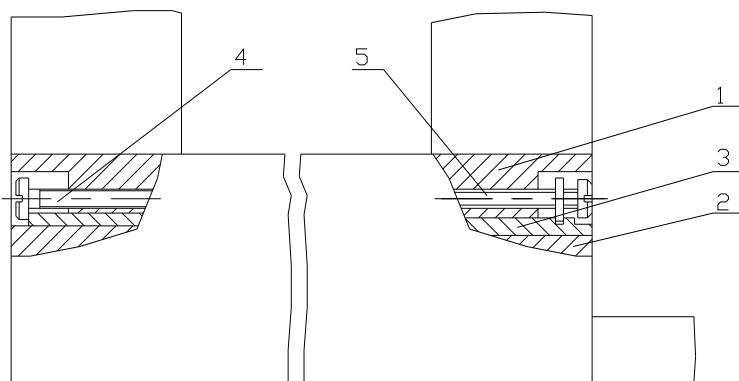

Fig.6-8 Adjustment the clearance between lower slide and carriage base plate
6.2.6. ADJUSTMENT THE CLEARANCE BETWEEN LOWER SLIDE AND CARRIAGE BASE PLATE (See Fig.6-8)